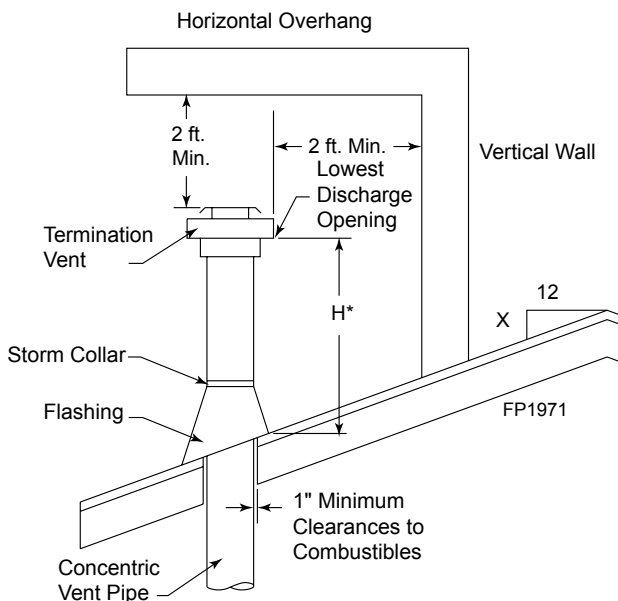

Figure 26 -
- For the minimum height of the vent above the highest point of penetration through the roof refer to Page 20, *Figure 26*.
6. Continue to add pipe sections until the height of the vent cap meets the minimum building code requirements as shown in *Figure 26.*